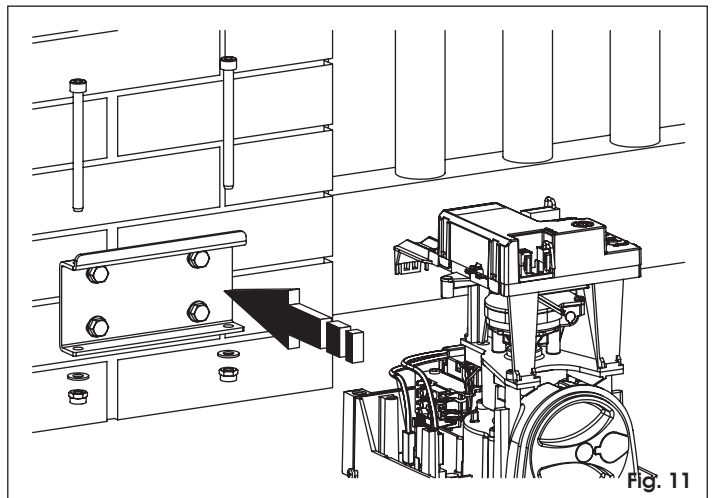

Fig. 11
4. Position the operator on the bracket you have just secured, using two M8x100 screws and the relevant nuts - supplied (Fig. 11).